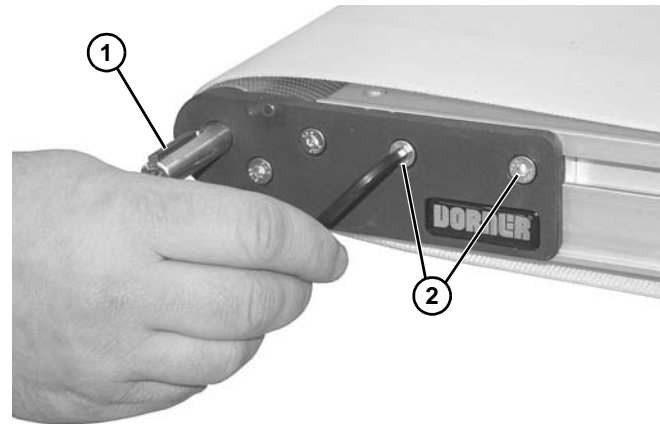

Figure 3
2. Remove key (**Figure 3**, item 1) from output shaft, if not already done.
3. Remove two screws (**Figure 3**, item 2).